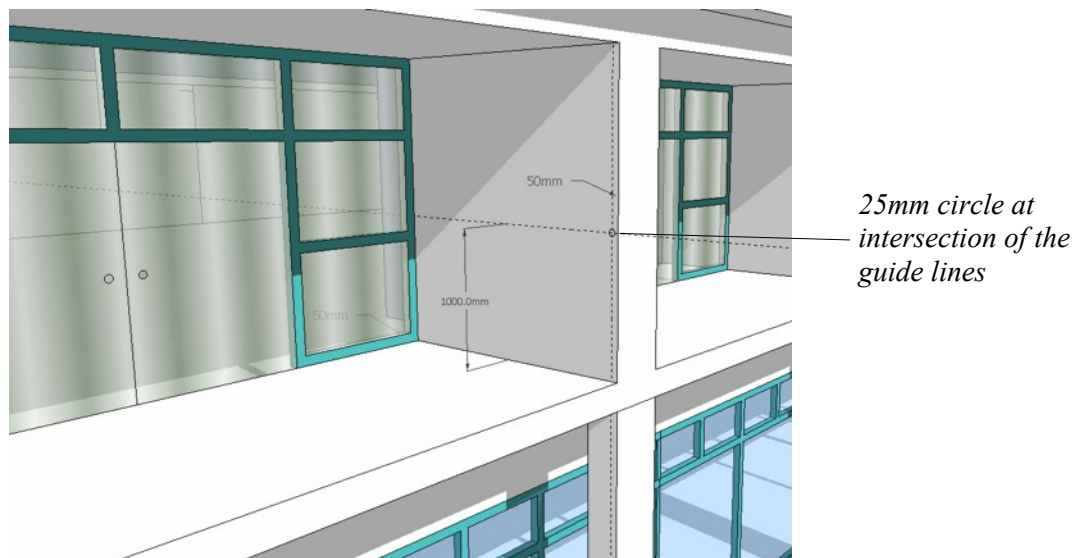

Figure 66. Construction of the balustrade
- Using the **Tape Measure Tool** create two guides, the first 1000mm from the balcony floor and the second 50mm inwards from the edge of the balcony as shown in Figure 66.
- Draw a 25mm radius circle at the intersection of the guides as shown in Figure 66.